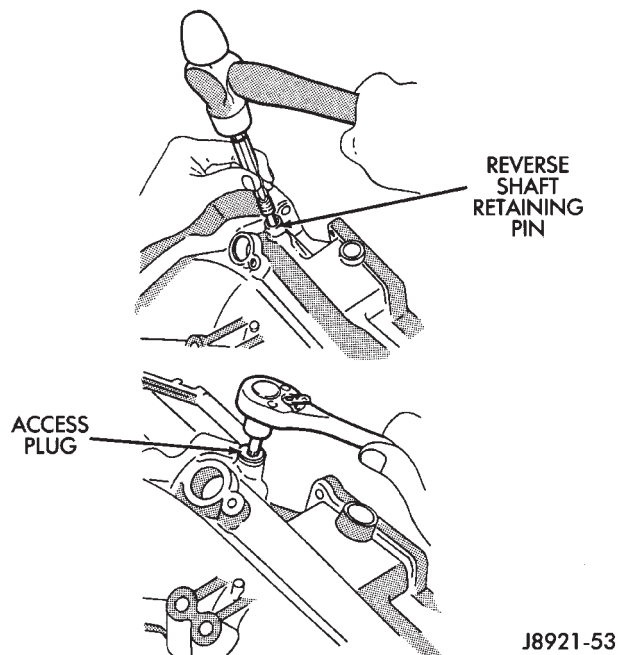

Fig. 73 Installing Reverse Shaft Pin
(4) Install reverse shaft and shaft retaining pin in adapter housing. Then install access hole plug with torx bit (Fig. 73).